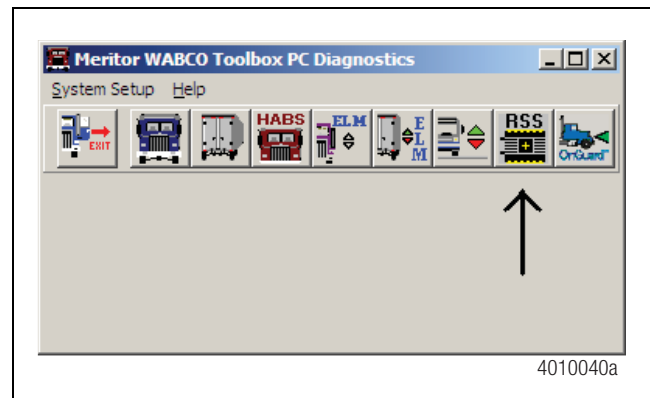

Figure 73
1. From the main screen of TOOLBOX™ Software, click on the RSSplus™ icon. Figure 73.